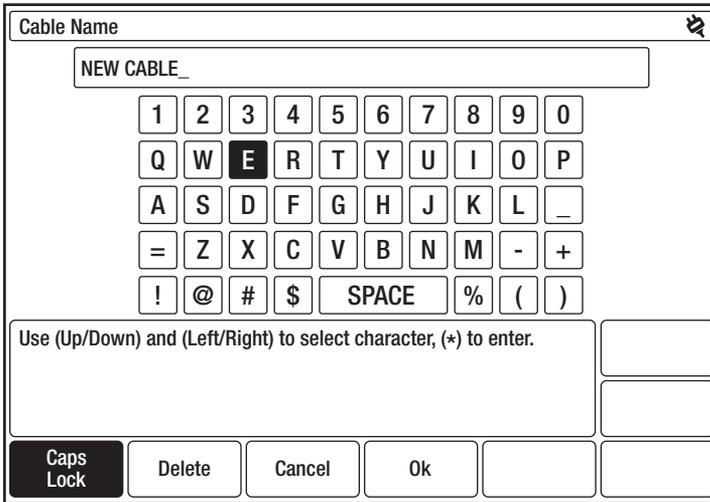

Figure 3-5: Setup – Create Custom Cable Type for User List – Cable Name
2. Press **Cable Name** to display the **Setup – Create Custom Cable Type for User List – Cable Name** display (Figure 3-5).